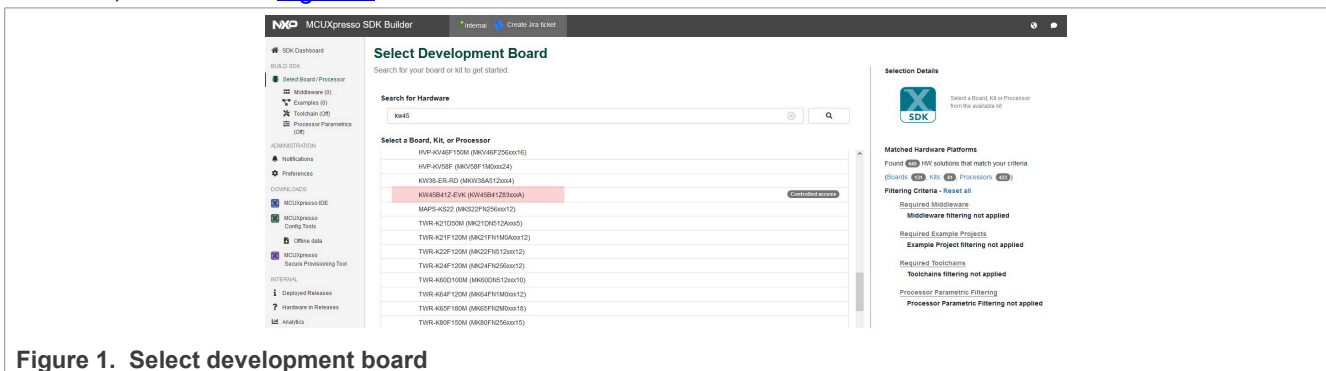

Figure 1. Select development board
2. Log in with your NXP account and click "Select Board/Processor" on the left menu. Select the "KW45B41Z-EVK", as shown in Figure 1.